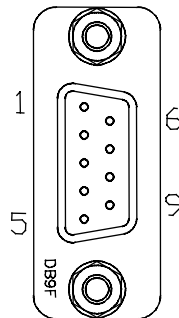

Figure 2-1 J5 Alarm Connector
2. Connect POWER IN (+27 Vdc) to the subrack. Refer to Figure 2-1 for pin locations and Table 2-2 for pin designations.
The Alarm Interface connector on the front panel of the MCR20830-1 Booster Amplifier Subrack is a 9-pin female D-sub connector that permits serial interface with the external alarm monitor. Refer to Figure 2-1 and Table 2-3 for connector definition.